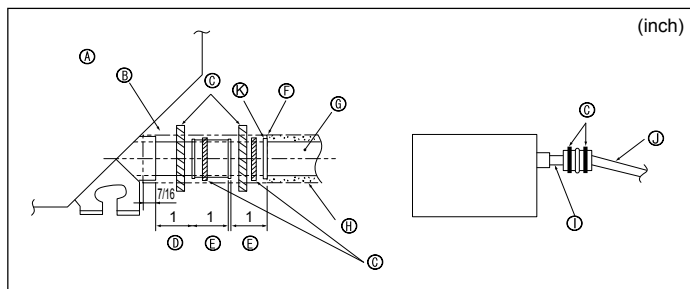

Fig. 5-2
1. Connect the drain socket (supplied with the unit) to the drain port. (Fig. 5-2)